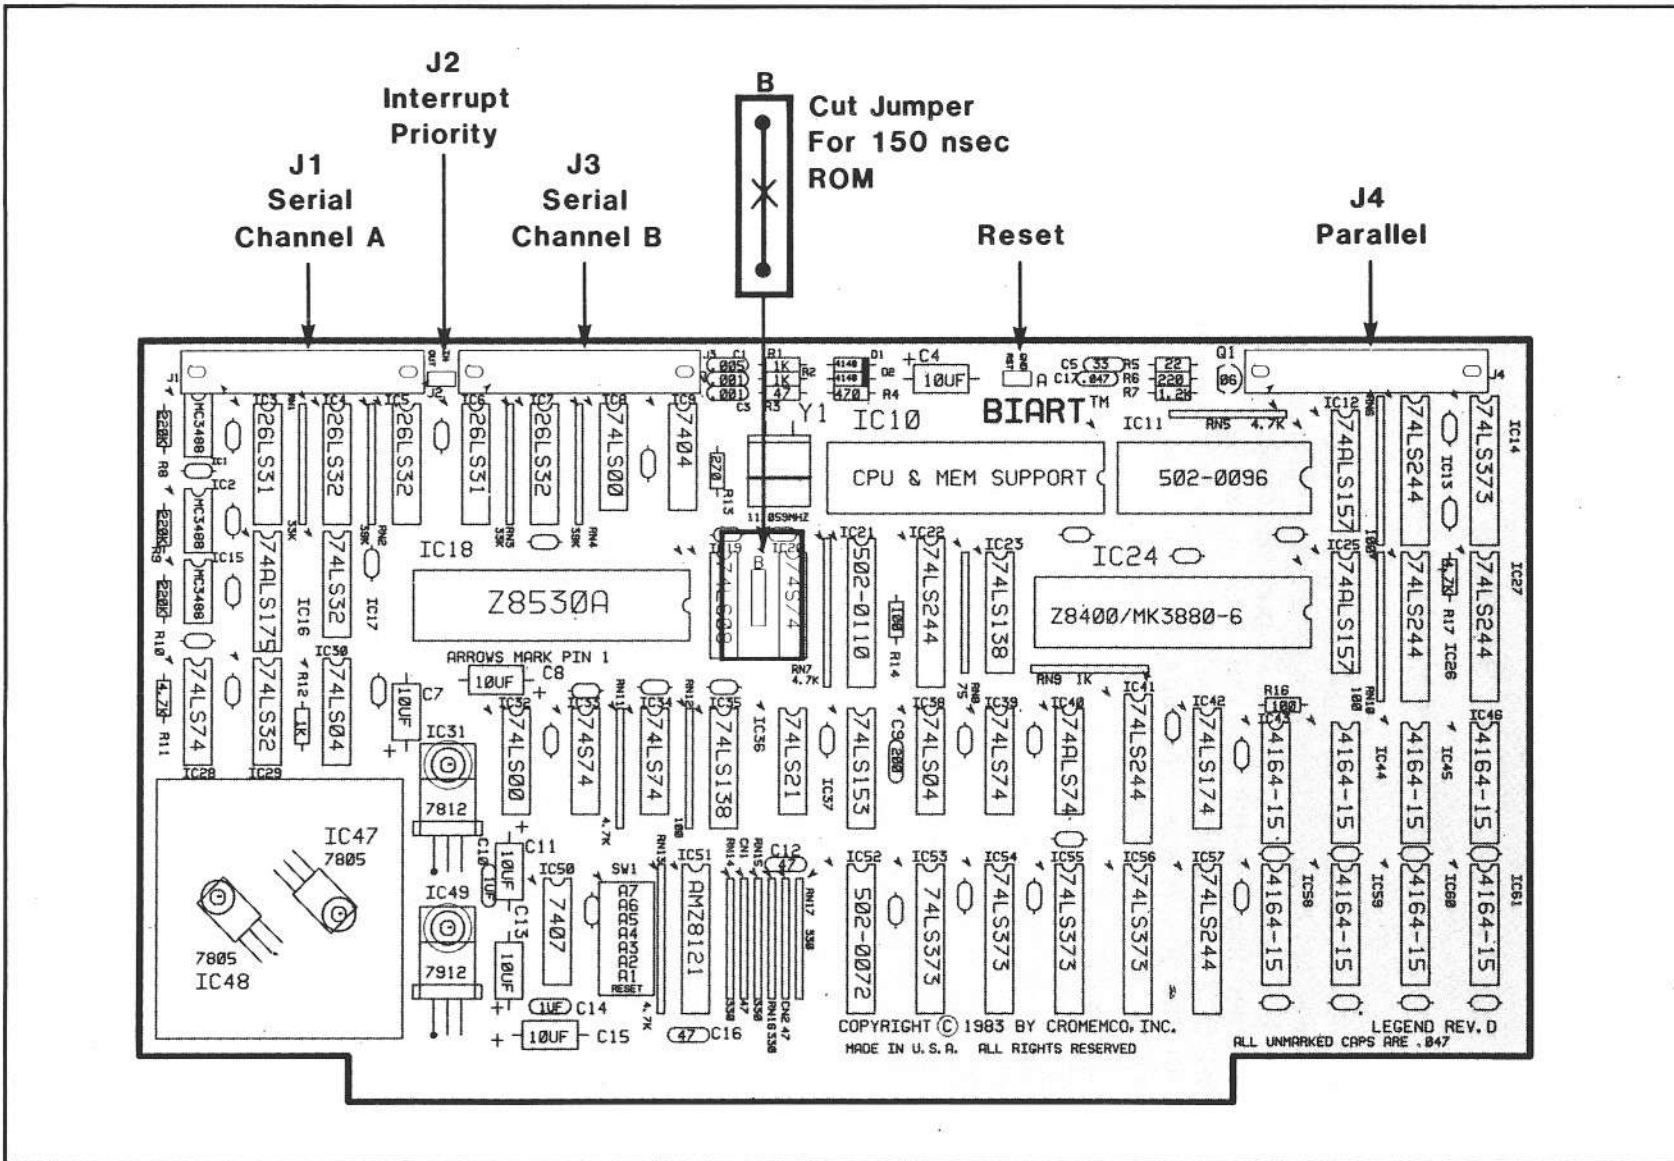

Figure 1-1: THE BIART BOARD
The BIART board supports the 16K x 8-bit 27128 ROM, or any pin compatible equivalent. The access speed of the installed ROM is 450 nanoseconds. If you want to use a faster ROM (150 nSec or less), cut jumper "B" between IC19 and IC20 (see figure 1-1).
There are five BIART connectors, Reset and J1 through J4, located along the top of the board (see figure 1-1). The Reset connector resets the BIART board, J2 connects the BIART in the S-100 interrupt priority chain, J1 connects to serial channel A, J3 connects to serial channel B, and J4 connects to a Centronics-style parallel printer or other parallel I/O device.
4. A software reset. If BIART switch SW-1, section 8 is ON (see figure 1-1), then the host can reset the BIART board by sending the following six bytes to register **Commands From Host**: 7Eh, 55h, 0Fh, 70h, 2Ah, and 7Eh. These bytes cause a momentary reset condition. If this command sequence is altered in any way, no BIART reset occurs. To disable the software feature, set switch 8 of SW-1 OFF. Only D0 through D6 are used. D7 is not used for software reset.